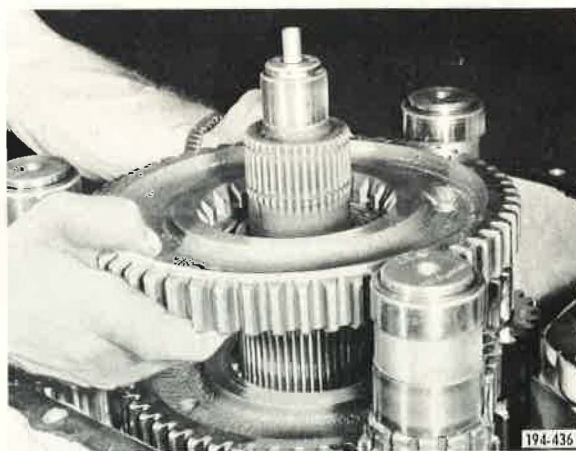

Figure 50. Installing First Speed Gear
13. Apply a light coat of grease to front face of first speed gear hub, then place first speed gear thrust washer on front face of gear hub. Install first speed gear (clutch teeth to the rear) with thrust washer and engage with countershaft first speed gear. See Figure 50.